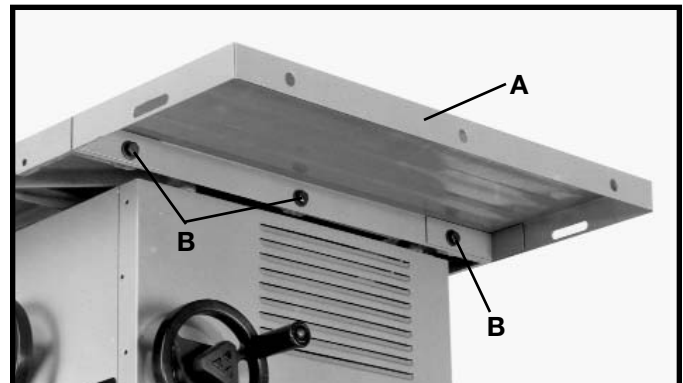

Fig. 9
1. Align the three holes in the extension wing (A) Fig. 9, with the three holes in the side of the saw table. **NOTE: DO NOT TIGHTEN HARDWARE AT THIS TIME.** Place a 5/16" lockwasher and a 3/8" flat washer onto a M8x1.25x16mm hex head screw. Insert the screw through the hole in the extension wing and thread the screw into the tapped hole in the side of the saw table. Repeat this process for the two remaining holes in the extension wing and the saw table.
2. With a straight edge (C) Fig. 10, make certain the extension wing (A) is level with the saw table before tightening three screws (B) Fig. 9.